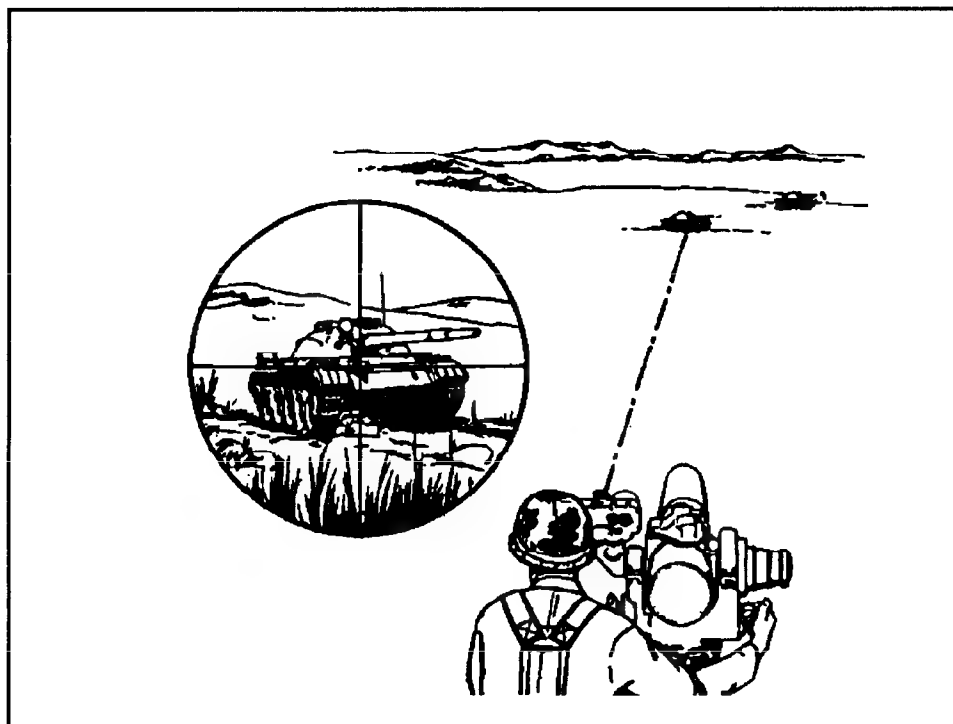

Figure 6-11. Cross hairs on the center of visible mass of the target.
b. Raise the trigger protective cover and establish a smooth tracking rate while keeping the cross hairs on the center of visible mass of the target (Figure 6-11).